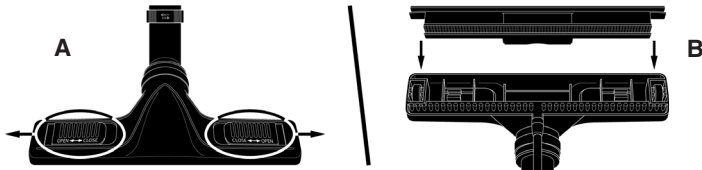

FIGURE 3
1. Slide two locks on top of Vacuum Head to “Open” position (FIGURE 3-A).
2. Select desired insert, and place it into Vacuum Head as shown (FIGURE 3-B).